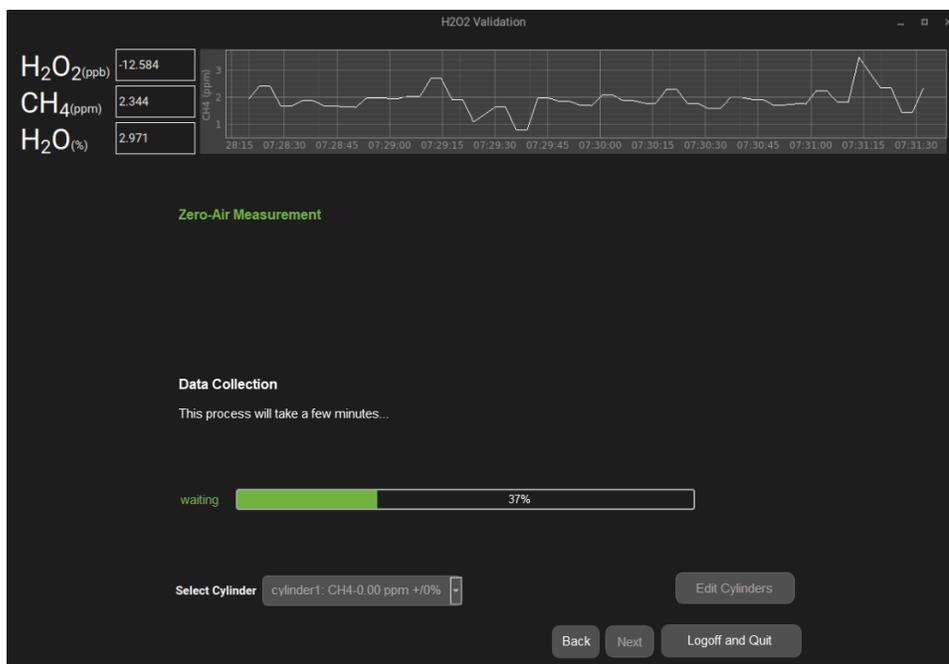

Figure 52 - Zero-Air Measurement
- Click **Next** to begin measurement. This will take several minutes. Once it has finished with measuring the cylinder, it will show a confirmation dialog that measurement is complete (Figure 52 - Zero-Air Measurement).